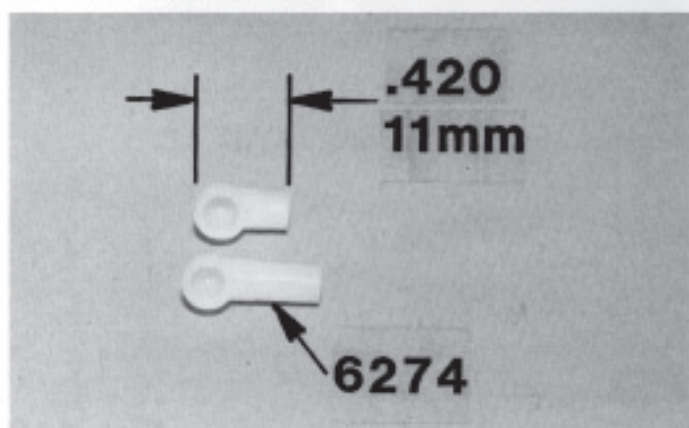
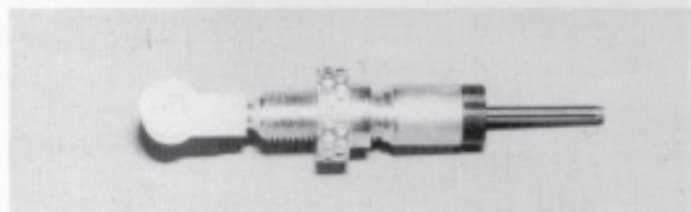

Fig. 38
Fig. 46
Fig. 38 In bag #7 you will find two #6274 plastic ball cups. You will need to take your X-acto® knife and shorten both plastic ball cups to an end to end measurement of .420" or 11mm as shown.
Fig. 39 & 40 Now we will begin assembly of the Delta Shock. **Note:** Associated does not have individual replacement shock parts for the Delta shock to sell unless the part has an Associated part number in the instructions. Remove the Delta shock body and spring adjusting collar from bag #7. Screw the spring adjusting collar onto the shock body as shown in Fig. 40. Make sure that the stepped end goes on first and the knurled end is closer to the small end. Thread the collar all the way on until it bottoms out and then back it off two full turns. Now take one of the #6274 plastic ball ends that we modified in Fig. 38 and screw it all the way onto the small threaded end of the shock body. Fig. 40 shows your shock assembled to this point.
□ Figs. 46, 47 & 48 Remove the #6951 4/40 x 1/8" set screw and aluminum shock shaft end from bag #7. Thread the #6951 set screw into the aluminum shock shaft end then take the other #6274 plastic ball end, that we modified back in Fig. 38, and screw it onto the aluminum shock shaft end. Take the #4446 shock spring from bag #7 and install it onto the shock. While holding the spring collapsed, install the aluminum shock shaft end onto the shock shaft and securely tighten the #6951 set screw.